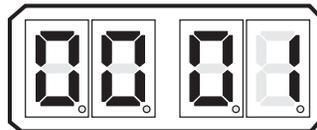
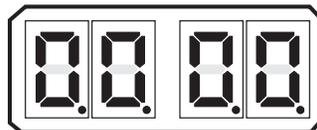

Figure 10-12: Example Display Station A/D's Transfer Button Depressed for Stations 1 - 4
Figure 10-13: Display Station A/D/s Transfer Button Depressed for Station 5
- For Stations 1 - 4 when the Transfer Button is depressed, the **0** which represents that remote station, will change to a **1** as shown in Figure 10-12: Example Display Station A/D's Transfer Button Depressed for Stations 1 - 4. For Station 5 when the Transfer Button is depressed, all four decimal points will light as shown in Figure 10-13: Display Station A/D/s Transfer Button Depressed for Station 5